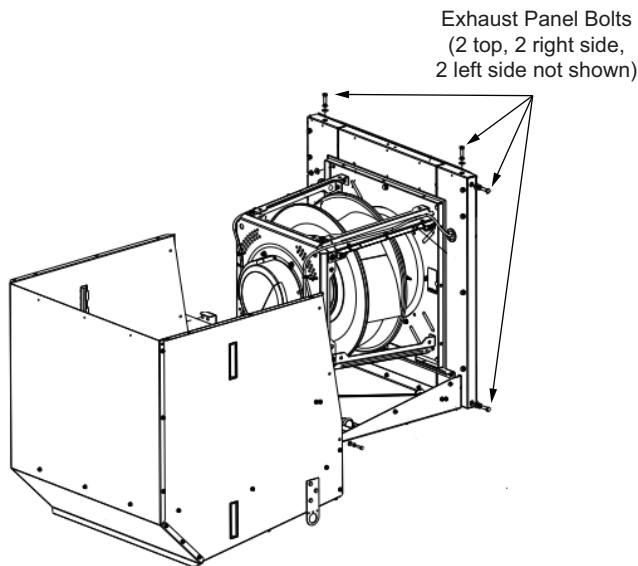

Fig. 33 — Power Exhaust Panel Bolt Positions
5. Remove the 6 bolts securing the exhaust panel in place (2 on top, 2 on each side). Save bolts and hardware. See Fig. 33.